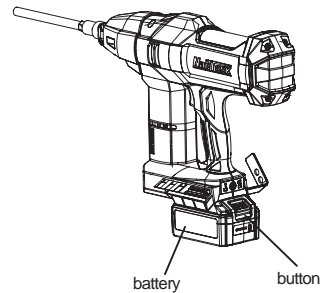

Figure 3
1. Install the battery pack, as shown in Figure 3 below. When inserting the battery pack, insert the battery pack into the case correctly. Be sure to insert it all the way to the bottom until you hear a clicking sound, indicates that the battery pack is securely attached to the machine. Otherwise the battery pack will accidentally fall off the case, causing injury to the operator or others. Avoid inserting the battery pack too hard or using other objects to knock it in. * note: only batteries of the specified model can be used. Use of battery packs from other brands carries the risk of injury and personal injury and property damage due to the explosion of the battery packs.